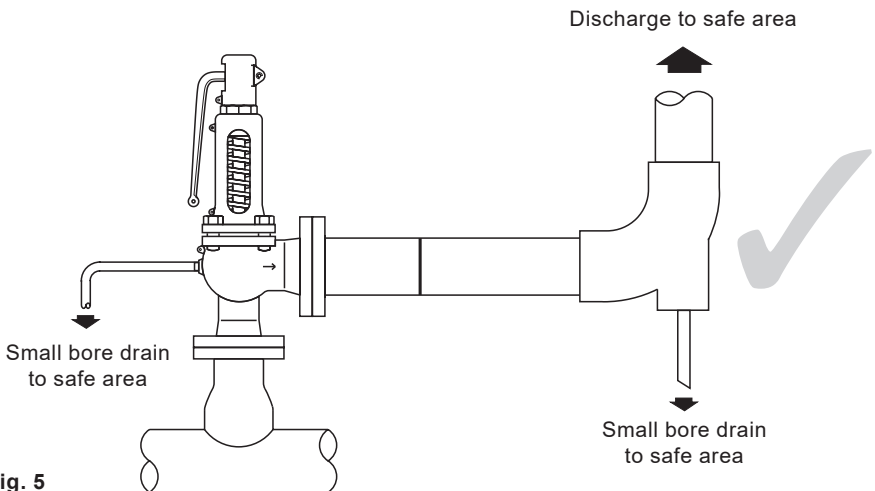

Fig. 5
- 6.3 There should be no intervening valve or fitting i.e. it should not be possible to isolate the safety valve (see Figure 5).
- 6.8** Where the outlet pipework is directed upwards (i.e. on steam service), a small bore drain should be provided at the lowest point (Figure 5). This drain should be taken to a place where any discharge will not create a hazard or inconvenience.